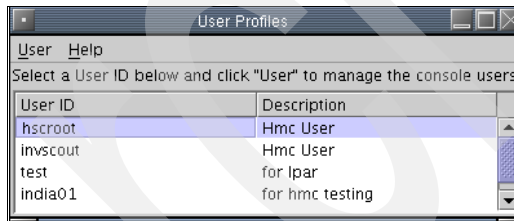

Figure 11-4 HMC User Add
- ▶ Click **Add** to add the user (Figure 11-4).